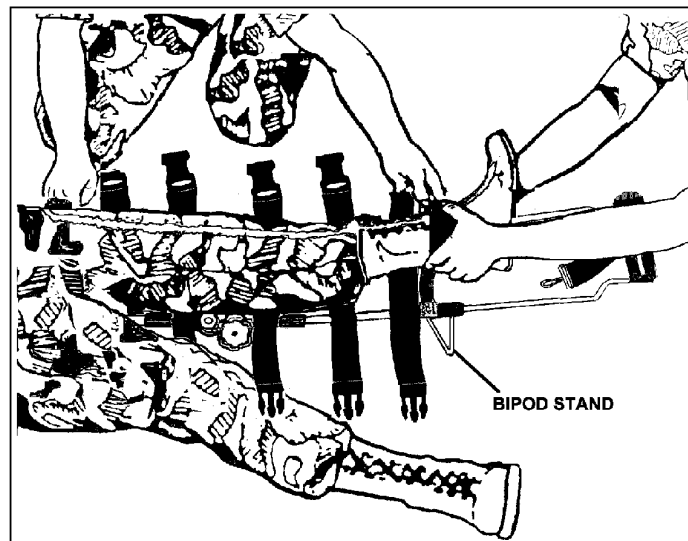

Figure 3-31
- c. Apply gentle traction and lift the casualty's leg enough to fit the splint into place. (See Figure 3-31.)